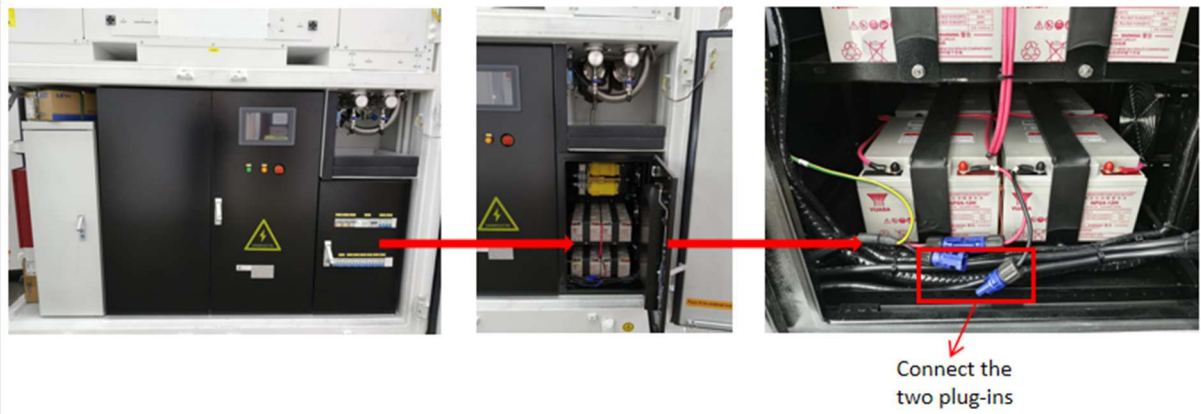

Figure 27: UPS battery wiring description
- ✓ Step 10: Referring to Figure 27, connect the wire of UPS battery terminal.